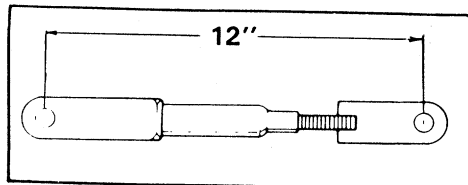

FIGURE 7.
10. Assemble and adjust the two halves of the center adjustment arm until it is 12 inches long. (See figure 7.)